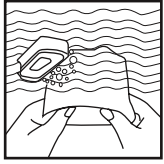

Fig. 5
5. Clean the foam filter. Wash with water and mild soap (Fig. 5)